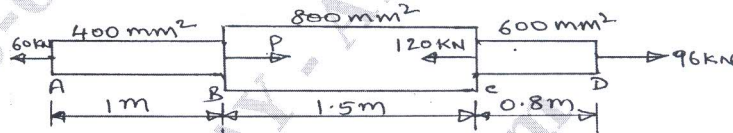

Fig. Q1 (c)
c. A steel bar ABCD of varying sections is subjected to the axial forces as shown in Fig. Q1 (c). Find the value of P necessary for equilibrium. If $E = 210 \text{ KN/mm}^2$, determine (i) Stresses in various segments and (ii) Total elongation of the bar. (08 Marks)